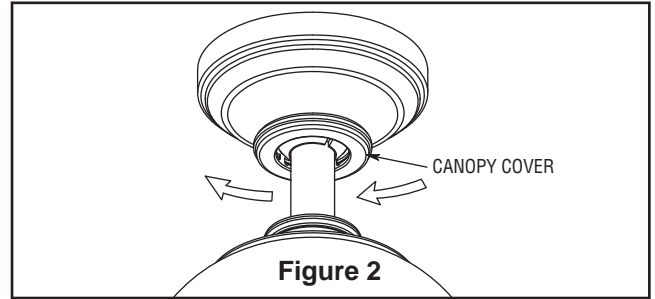

Figure 2
2. Securely attach and tighten the canopy screw cover over the shoulder screws in the hanger bracket utilizing the keyslot twist-lock feature (Figure 2).